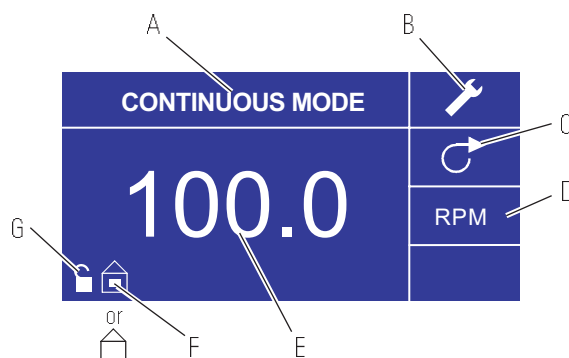

Figure 3-2. Continuous Mode Screen
- E. **Current Flow Rate:** The center digits show the speed of the drive in % max speed or rpm (see position D, Figure 3-2).